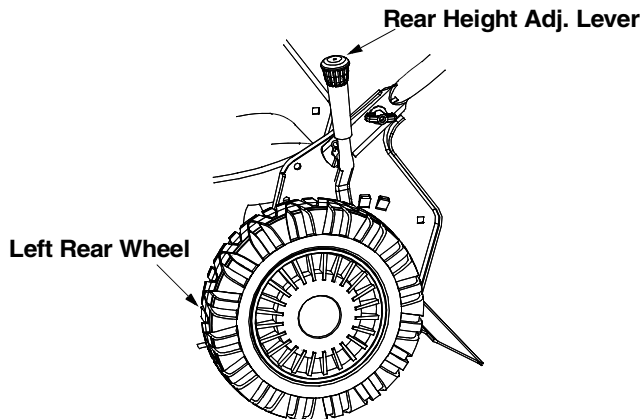

Figure 13
- Pull the rear height adjustment lever out and away from the mower and then move it forward or backward to another slot. For rough or uneven lawns, move the height adjustment lever to a higher position. This will help stop scalping. See Figure 13.